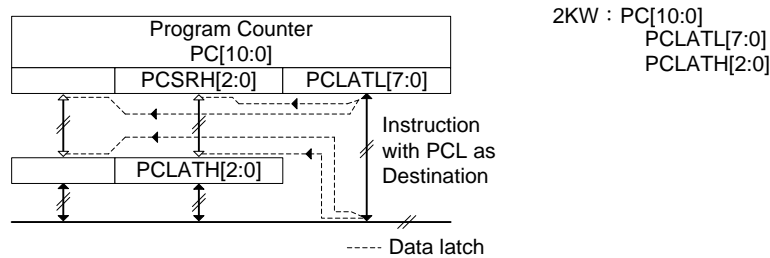

Figure 2-2 PC Architecture
2.2.1.2. Program Counter (PC)
Program Counter (PC) is composed of shift register PCSRH and buffer register PCLAT. Se Figure 2-2.